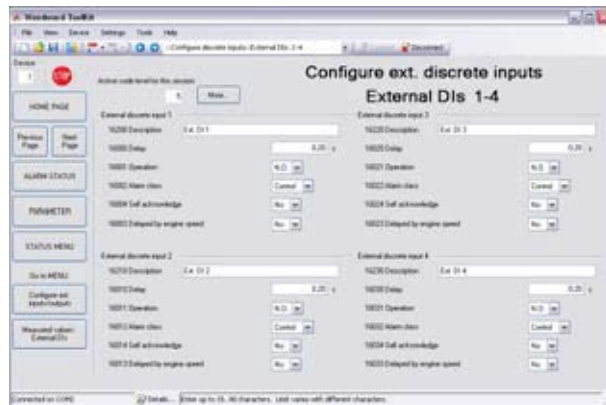

Fig. 212: Setup of external DIs
- ➔ Set up the external discrete inputs using the Toolkit screen shown in (Fig. 212).